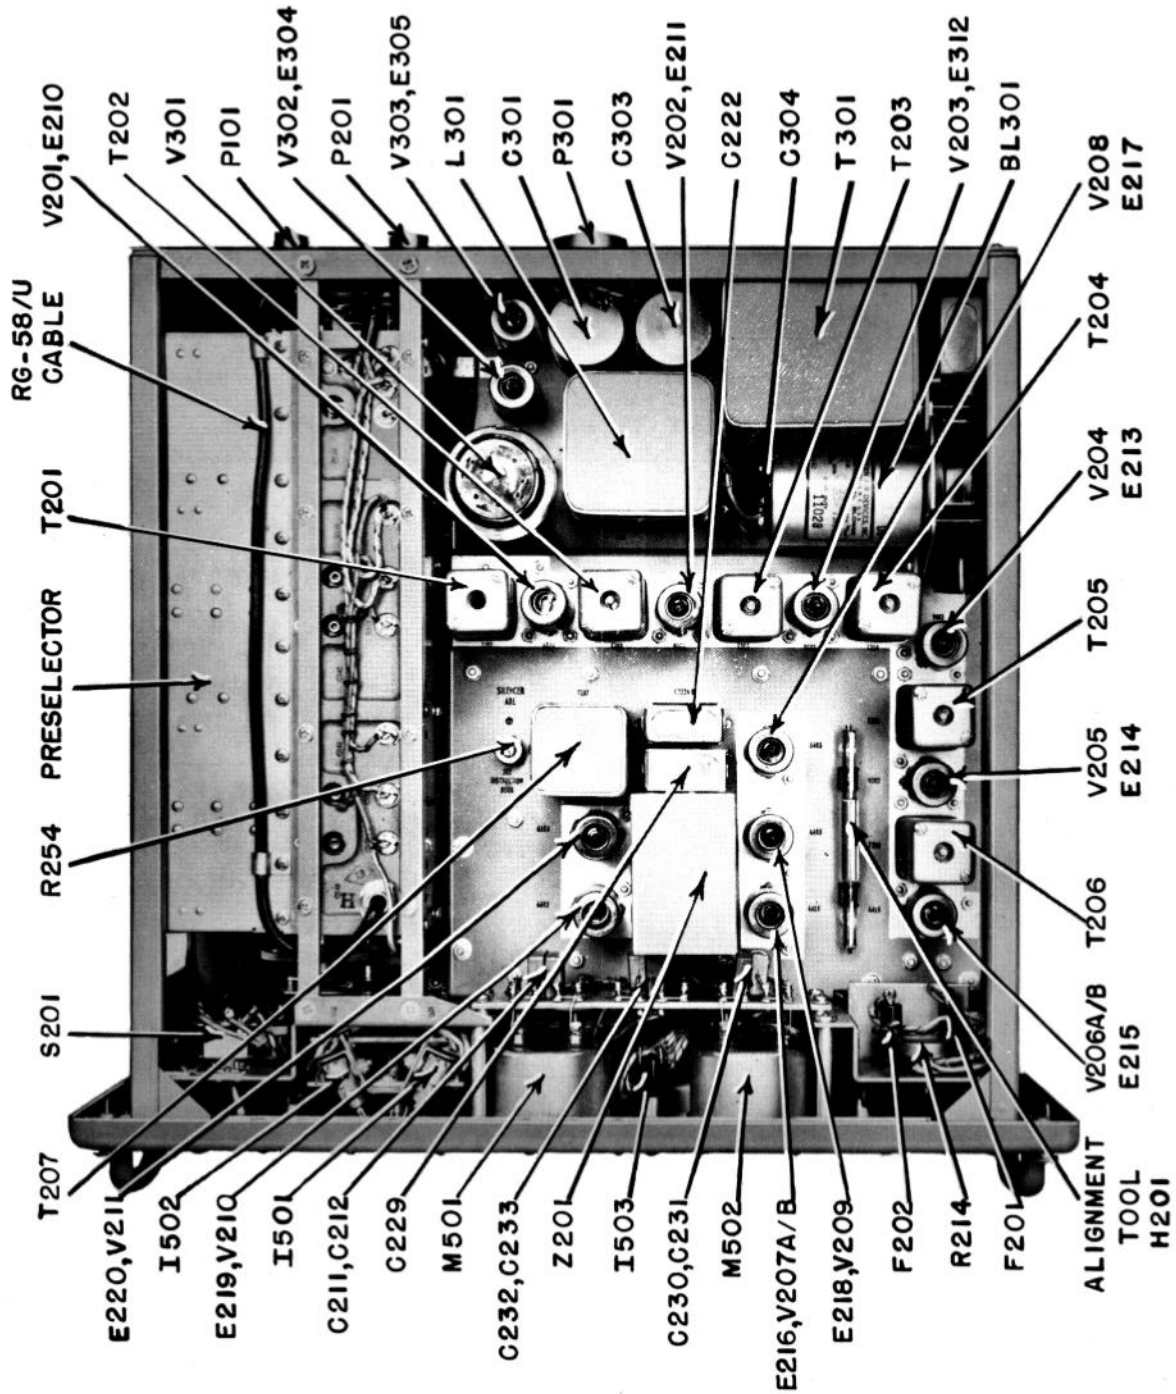

Figure 1-4. Top View of Chassis
b. FRONT PANEL AND CHASSIS FRAME ASSEMBLY.—An aluminum frame, attached to the front panel, mounts the preselector, IF/AF and power supply chassis to form a complete chassis assembly. See figure 1-4. The panel is finished in a gray enamel which blends with the color of the cabinet and is fitted with handles to permit withdrawal of the panel-and-chassis assembly from the cabinet. A spring stop mechanism on each side permits nearly complete with-
c. PRESELECTOR SECTION.—The preselector section is mounted along the left side of the chassis frame, as shown in figures 1-4 and 1-5, and comprises all parts of the r-f amplifier-converter and oscillator-multiplier sections. The r-f amplifier section is above the oscillator-multiplier section, and each consists of an aluminum casting with removable covers. The two r-f amplifier stages and the mixer, or first detector, are mounted in the r-f amplifier-converter section. The basic oscillator, one frequency-doubler stage, a buffer amplifier stage and a frequency-tripler stage are mounted in the oscillator-multiplier section. Partitions in the castings provide r-f shielding between stages.
e. THE IF/AF SECTION.—The IF/AF section of the chassis is shown in figures 1-4, 2-6A and 2-6B. It is located on the right-hand side of the chassis frame, and mounts the circuit parts of the five i-f stages, the second detector, the automatic volume control circuit (AVC), the silencer and the silencer amplifier circuits, the noise limiter circuit and the three stages of audio amplification.
f. POWER SUPPLY SECTION.—The power supply section of the chassis, shown in figures 1-4 and 2-14, is mounted at the rear of the IF/AF section. It includes all the circuit parts necessary to provide the a-c and d-c voltages required for operation of the equipment from a source of 110/115/120 volt, 50-60 cps, single-phase power.